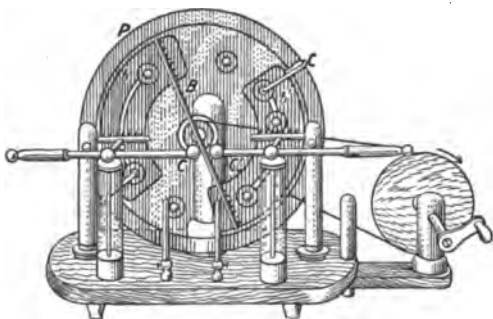

FIG. 214.—The Toepler-Holtz induction machine.
**236. The Toepler-Holtz Induction Machine.**—This is a type of induction or influence machine that is often used for producing a continuous supply of electricity as in the operation of "X" ray machines, in lecture demonstrations, etc. This machine (Fig. 214) consists of two discs: one fixed, the other mounted so as to revolve. Upon the back of the fixed plate are two sectors of tinfoil which become charged oppositely. Upon the revolving plate are six metallic discs. These discs act like the discs of the electrophorus. They become charged by induction from the charges upon the sectors fastened to the fixed plate. The brushes held by a rod touch the discs at just the right time to take off the repelled charge. The charges induced upon the discs are taken off by two metal combs whose points are held close to the revolving disc. The Leyden jars assist in accumulating a good strong charge